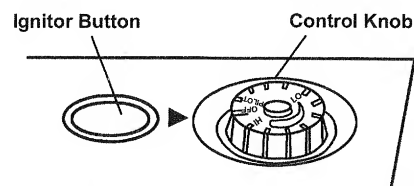

Figure 19 - Control Knob In The OFF Position
4. Wait five(5) minutes to clear out any gas. Then smell for gas, including near the floor. If you smell gas, STOP! Follow "B" in the safety information on the side of heater. If you don't smell gas, go to the next step.
5. Turn control knob counterclockwise ↺ to the "PILOT" position. Press in control knob for five(5) seconds. (see Figure 19).